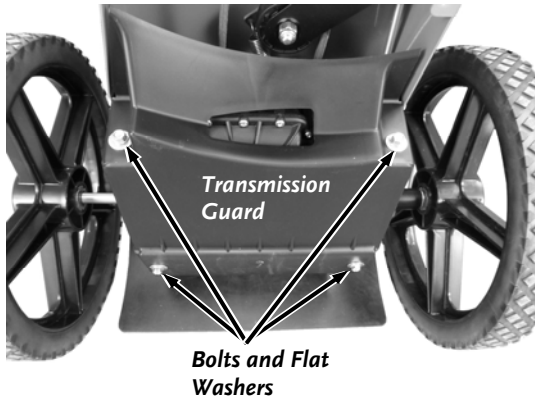

Figure 29
13. Install the Transmission Cover and secure with the four Transmission Cover Bolts and Flat Washers using a 3/8" Wrench (**Figure 29**).